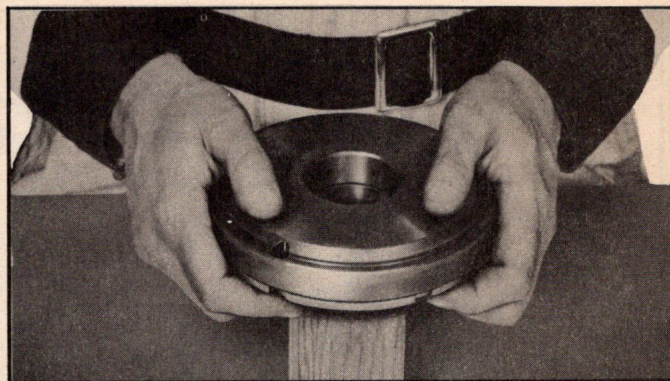

Fig. 142—Removing Annular Piston from Clutch Drum
7. Remove annular piston from clutch drum by tapping clutch drum rear thrust face on block of wood (Fig. 142).